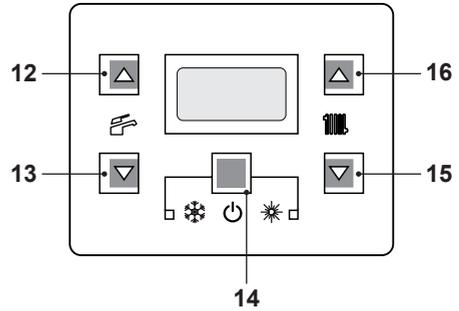
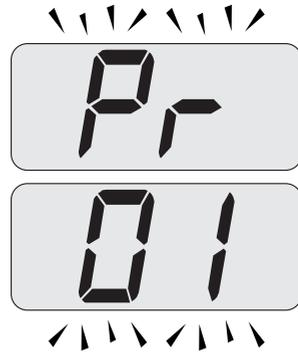
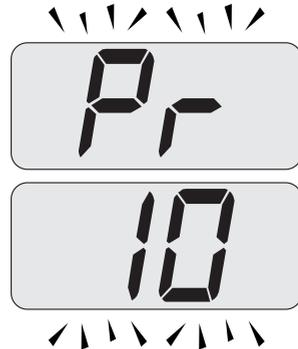

Fig. 7.32
Fig. 7.33
Fig. 7.34
- Enter the "programming mode" by pressing keys 14 - 15 - 16 (Fig. 7.32) for 10 seconds at the same time until the letters **Pr** that alternate with code **01** are displayed on the LCD display, indicating that "parameter 01" (Fig. 7.33) has been activated.
- Scroll the various parameters using keys 15 or 16 until the letters **Pr** that alternate with code **10** are displayed on the LCD display, indicating that "parameter 10" (Fig. 7.34) has been activated.
- Press keys 14 and 16 (Fig. 7.32) at the same time until the value of parameter 10 (30=180 seconds) is displayed on the LCD display (Fig. 7.35).
- By pressing key 14 (Fig. 7.32) confirmation of the inserted value is obtained.
- Press keys 14 and 15 (Fig. 7.32) at the same time to exit without changing the value (return to the parameters list Fig. 7.34).
- Press keys 14 - 15 - 16 (Fig. 7.32) at the same time for 10 seconds to exit the "programming mode".